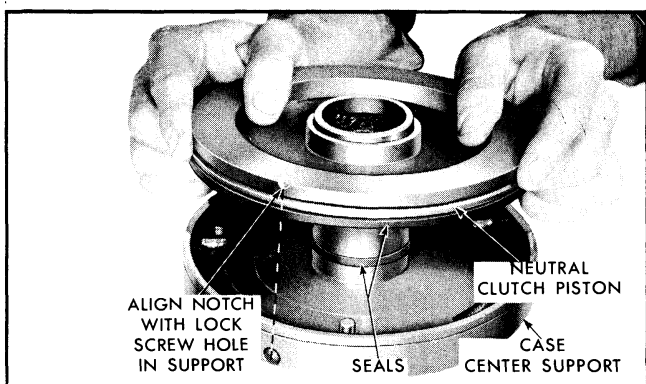

Fig. 7D-97 Installing Neutral Clutch Piston
25. Apply Hydra-Matic oil to five clutch drive plates (composition) and four driven plates (steel) (Fig. 7D-96).